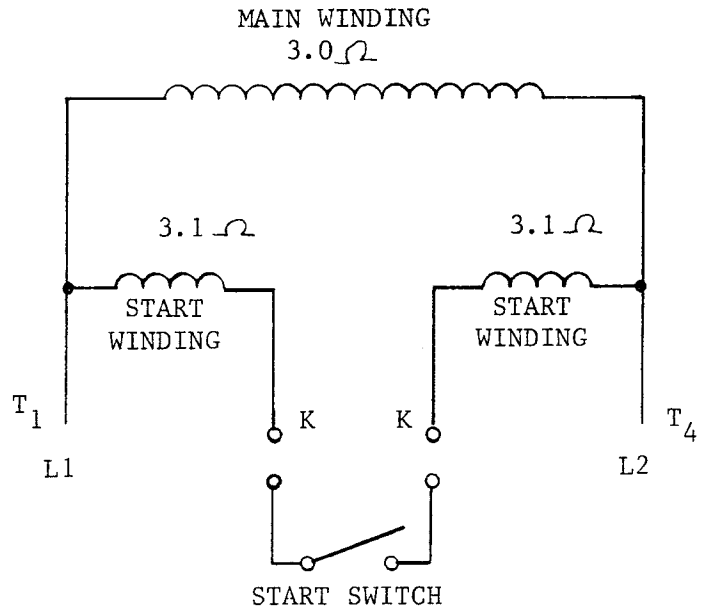

Fig. 4-9
- B. With all motor leads disconnected and the ohmmeter set on the RX1 range, check each winding for the correct resistance. Refer to Fig. 4-9 for the correct resistance.